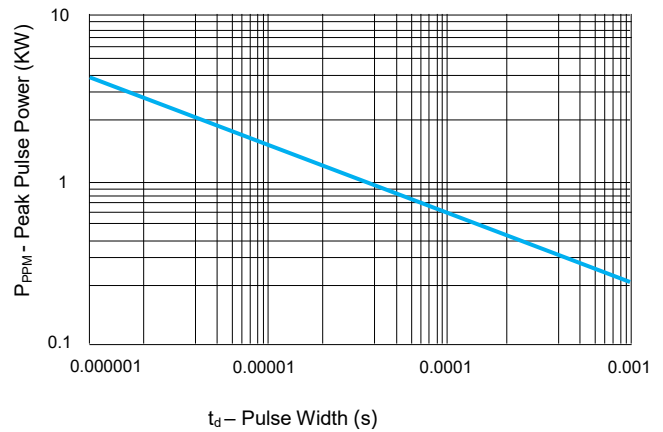

FIGURE 2 Peak Pulse Power Rating Curve
- Surge current waveform per 10/1000  $\mu$ s exponential wave and derated per Fig.2.